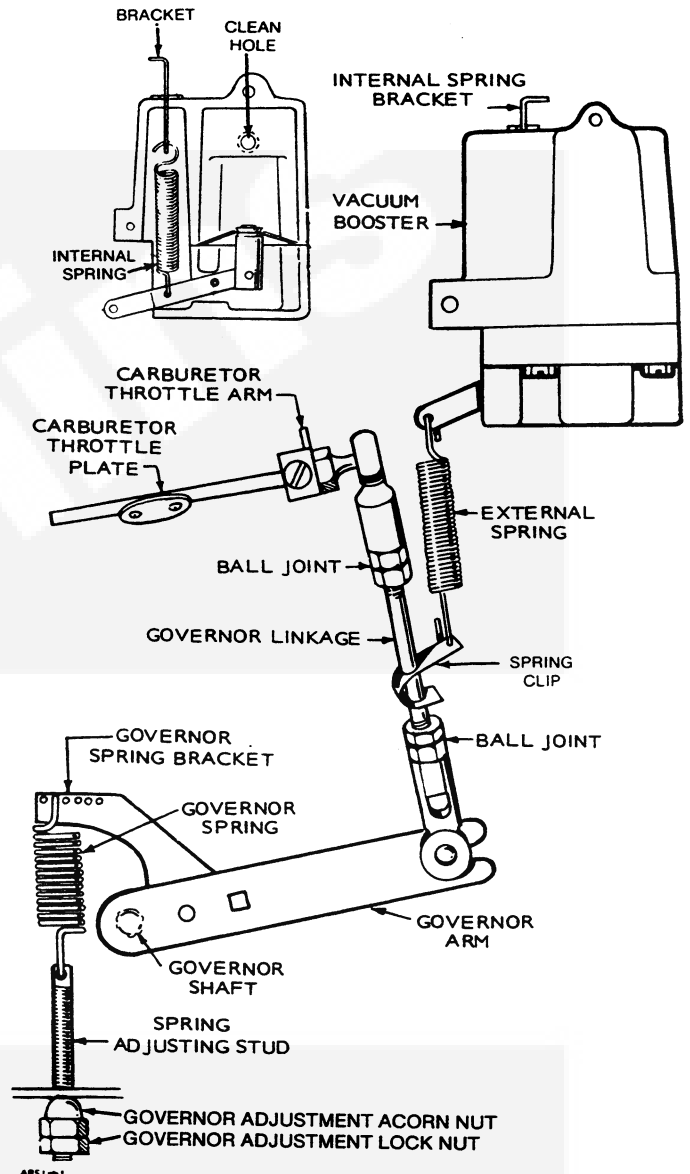

FIGURE 13. VACUUM SPEED BOOSTER
AC Power Speed Setting (No Load): This is controlled by the governor adjustment nut on the governor spring adjusting stud, Figure 13.
2. Loosen the lock nut and adjust no load speed to 1900 rpm by turning acorn nut (Figure 13).
Booster Cleaning: Use a fine wire to clean the small hole in the short vacuum tube which fits into the hole in the top of the engine intake manifold (Figure 13). Do not enlarge this hole. If there is tension on the external spring when the unit is operating at no load or light load, it may be due to improper adjustment, restricted hole in the small vacuum tube, or a leak in the booster diaphragm or gasket.
The vacuum speed booster (Figure 13) is operated by manifold vacuum. It provides increased engine speed and better regulation when operating the unit in the POWER position only.